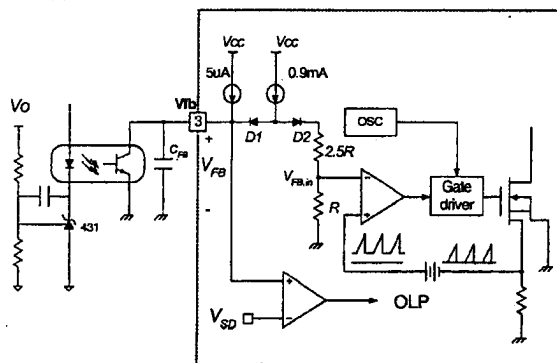

Figure 5. Pulse Width Modulation (PWM) Circuit
2. Feedback Control: The 700V FPS series employs current mode control, as shown in Figure 5. An optocoupler (such as the H11A817A) and shunt regulator (such as the KA431) are typically used to implement the feedback network. Comparing the feedback voltage with the voltage across the Rsense resistor of Sense FET plus an offset voltage makes it possible to control the switching duty cycle. When the KA431 reference pin voltage exceeds the internal reference voltage of 2.5V, the optocoupler LED current increases, the feedback voltage V_{fb} is pulled down and thereby reduces the duty cycle. This typically happens when the input voltage increases or the output load decreases.
4.3 Over Voltage Protection (OVP): In the event of a malfunction in the secondary side feedback circuit, or an open feedback loop caused by a soldering defect, the current through the optocoupler transistor becomes almost zero (refer to Figure 5). Then, V_{FB} climbs up in a similar manner to the overload situation, forcing the preset maximum current to be supplied to the SMPS until the overload protection is activated. Because excess energy is provided to the output, the output voltage may exceed the rated voltage before the overload protection is activated, resulting in the breakdown of the devices in the secondary side. In order to prevent this situation; an Over Voltage Protection (OVP) circuit is employed. In general, V_{CC} is proportional to the output voltage and the FPS uses V_{CC} instead of directly monitoring the output voltage. If V_{CC} exceeds 19V, OVP circuit is activated resulting in termination of the switching operation. In order to avoid undesired activation of OVP during normal operation, V_{CC} should be designed to be below 19V.